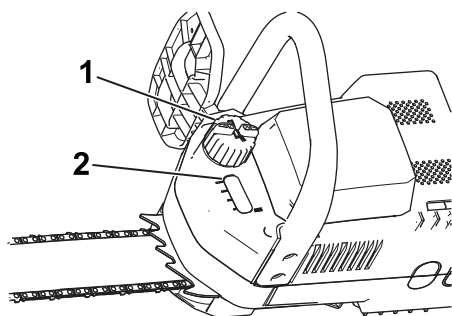

Figure 27
- Check the oil level in the window. If you cannot see oil in the window, add bar and chain oil to the chain saw (Figure 27).
- Clean the area around the oil cap (Figure 27).
- Remove the cap and pour oil into the chain saw until the oil fills the window (Figure 27).